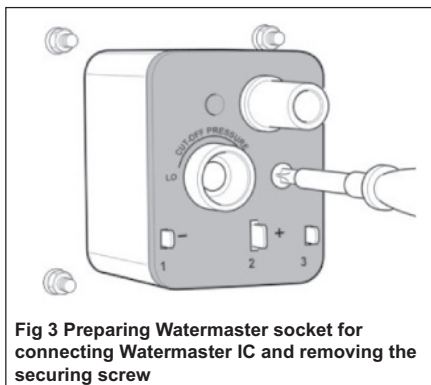

Fig 3 Preparing Watermaster socket for connecting Watermaster IC and removing the securing screw
Step 4 - Remove securing screw (see Fig 3)